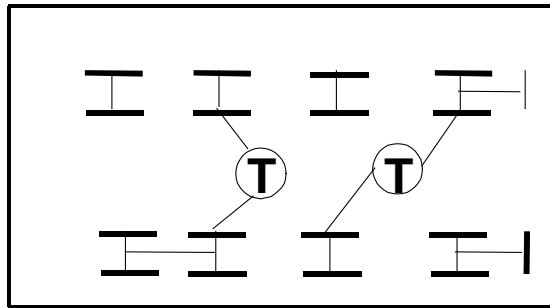

Fig. 3 Wired for 120VAC Operation
- Step 1: Wire Power Transformer Terminal Block as illustrated in Figure 3.